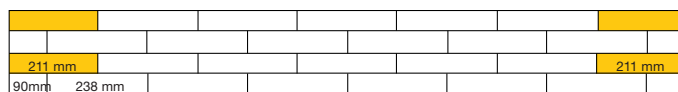

Figure 3: Iluzo (238 mm x 90 mm x 48 mm) with 4mm joint in half-brickwork: bats on the corners
- With many traditional bonds, smartly sawn bats are needed near the corners (figure 3)